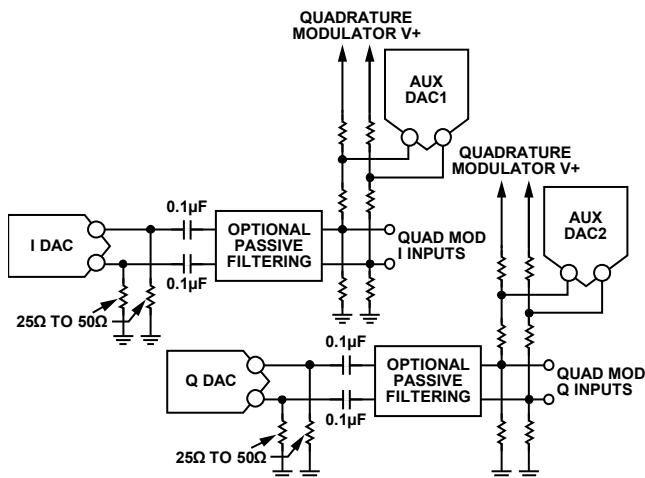
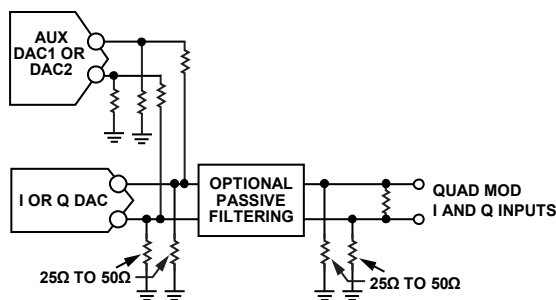

Figure 72. Typical Use of Auxiliary DACs AC Coupling to Quadrature Modulator
Figure 73. Typical Use of Auxiliary DACs DC Coupling to Quadrature Modulator with DC Shift
The auxiliary DACs can be used for local oscillator (LO) cancellation when the DAC output is followed by a quadrature modulator. This LO feedthrough is caused by the input referred dc offset voltage of the quadrature modulator (and the DAC output offset voltage mismatch) and can degrade system performance. Typical DAC-to-quadrature modulator interfaces are shown in Figure 72 and Figure 73. Often, the input common-mode voltage for the modulator is much higher than the output compliance range of the DAC, so that ac coupling or a dc level shift is necessary. If the required common-mode input voltage on the quadrature modulator matches that of the DAC, then the dc blocking capacitors in Figure 72 can be removed.
A low-pass or band-pass passive filter is recommended when spurious signals from the DAC (distortion and DAC images) at the quadrature modulator inputs can affect system performance. Placing the filter at the location shown in Figure 72 and Figure 73 allows easy design of the filter, as the source and load impedances can easily be designed close to 50 Ω .